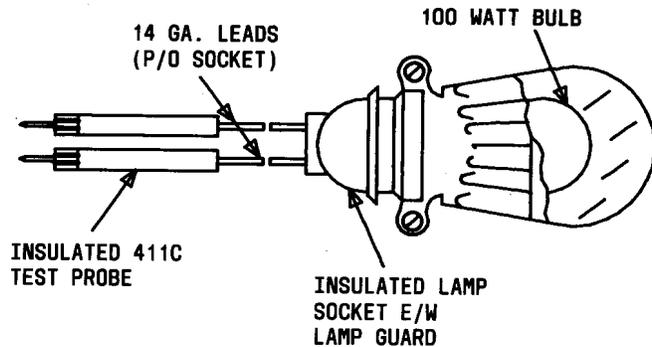

Fig. 5—Locally Constructed Equivalent of ITE-4175 Tool
- (2) Insert the ITE-4175 tool or equivalent (Fig. 5) between the output charge fuse holder terminals.